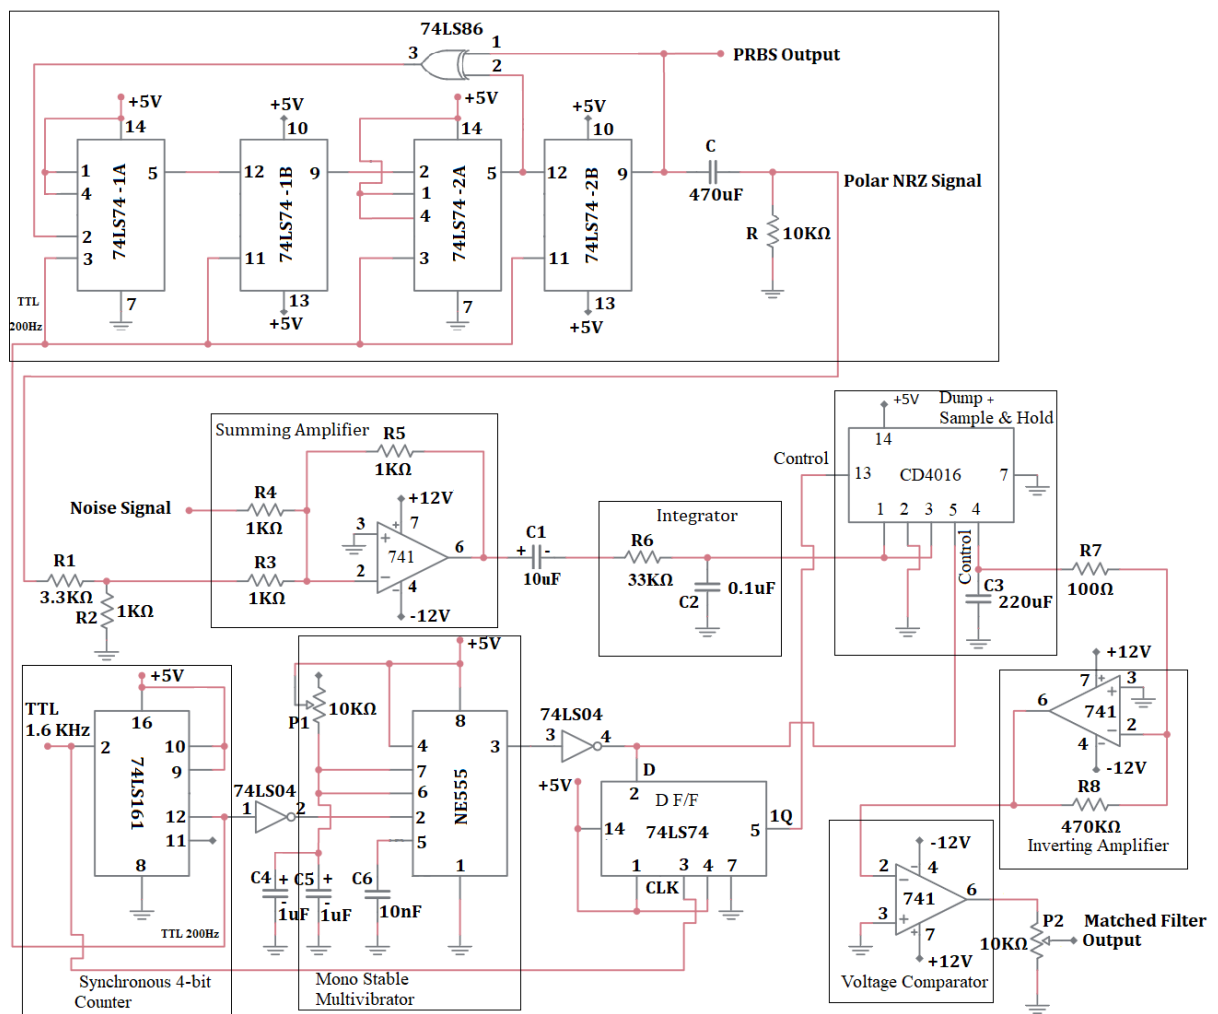

Figure 1: Matched Filter Circuit
1. Connect the circuit as given in *Figure1*.
2. Give Polar NRZ Message signal of 200Hz from PRBS generator or Function Generator as shown in *Figure1*. Observe output after adder, this is transmitted signal. Compute Signal Power in watts and dBW .